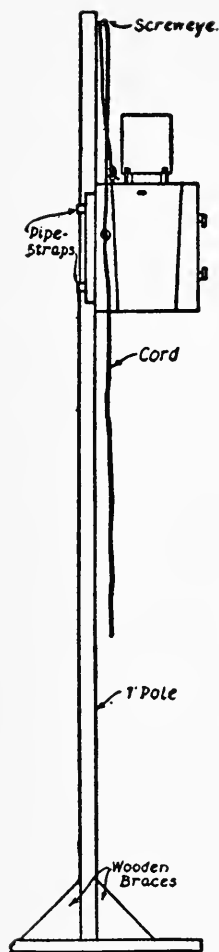
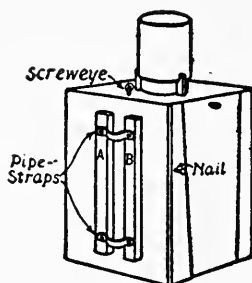

FIG. 321.
FIG. 322.
**Floodlights**, which are used to throw light from the wings on to the stage, may be made as shown in Figs. 321, 322, 323, and 324. The case for the light is made in the same manner as the dark-room lantern, described in Chapter XI, and illustrated by Figs. 176 and 177, except that the door is placed in the side instead of the back and no glass or paper is fastened over the front opening (see Figs. 322 and 323). Make the opening four by five inches, and fasten two grooves, formed by nailing two
**Colored Lights** upon a scene. The slides consist of old four-by-five camera plates with colored tissue-paper pasted upon them, and are operated in the same manner as magic-lantern slides. The light should be mounted upon a standard, such as is shown in Fig. 321, consisting of a seven-foot pole fastened at the lower end to a board and braced with triangular blocks, as shown in the illustration. It should be so attached to the pole that it can be adjusted to any desired height, and to attain this two pipe-straps should be fastened to the back of the box, as shown in Fig. 322. First nail two vertical strips in place as at *A* and *B* in the drawing, and to these screw the two iron pipe-straps. When the straps have been attached, slip the end of the pole through them, and place a screw-eye in the box, another in the pole near its upper end, and a nail in the side of the box. Then attach a cord to the screw-eye in the box, and, after running it through the screw-eye near the top of the pole, twist it several times around the nail in the side of the box, which will hold the box in that position. One of these lights should be made for each side of the stage. In addition to them, you may have occasion to use